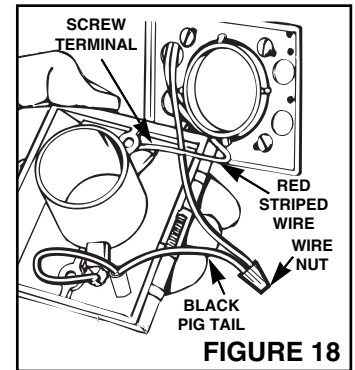
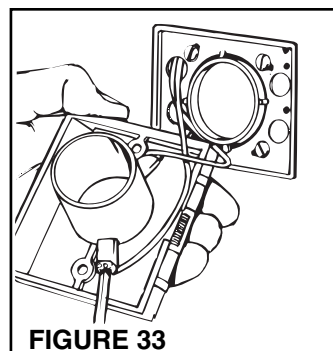

FIGURE 18
FIGURE 33
3. Refer to Figure 18. Connect the red striped wire of the 2-conductor low voltage cable to the unused terminal screw on the inlet. Connect the remaining wire to the black pigtail wire. Cap off both wires using wire nut (supplied).
9. Attach the low voltage wires to terminal screws on back of wall inlet (Figure 33). If using 361 Rough-in with CI370 Series Inlets, refer to instructions on page 6, step 3, shown in Figure 18.